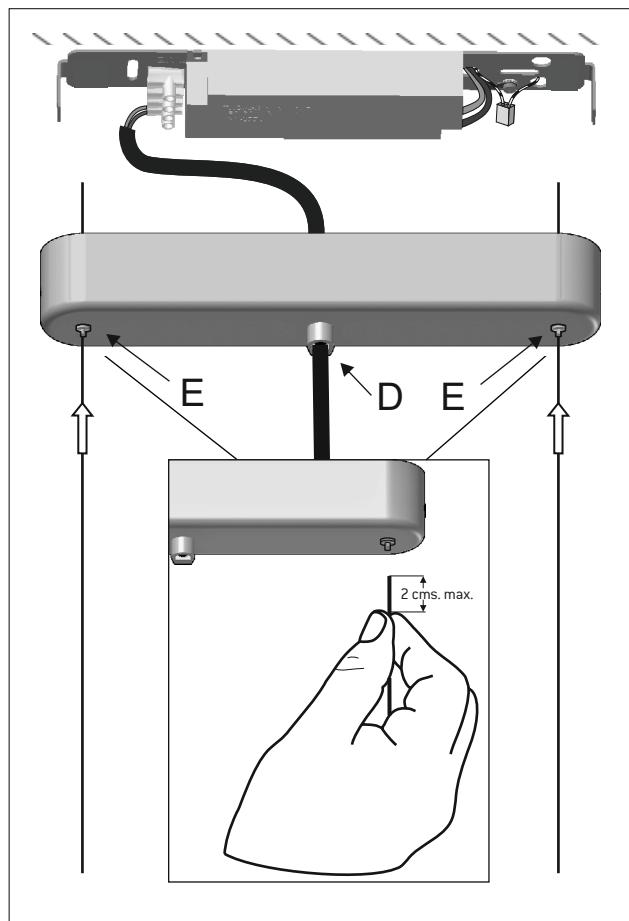
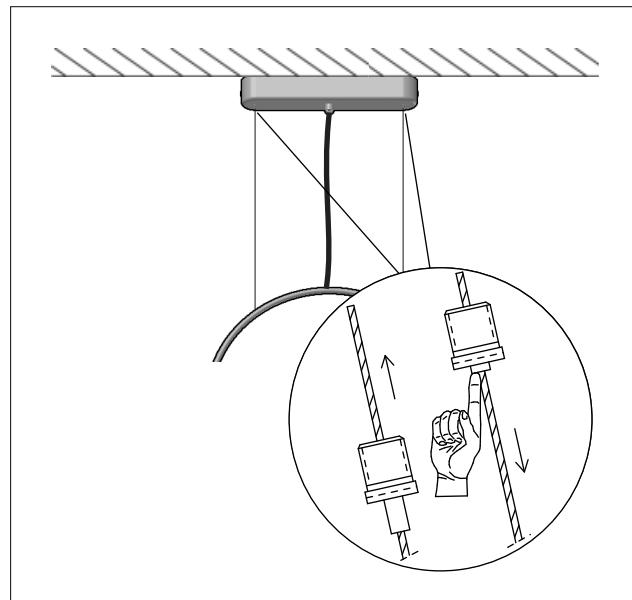
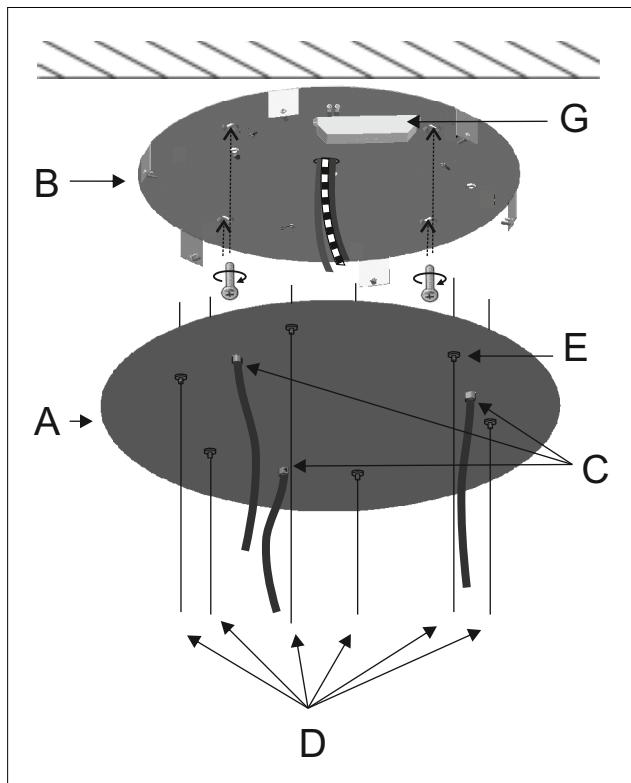
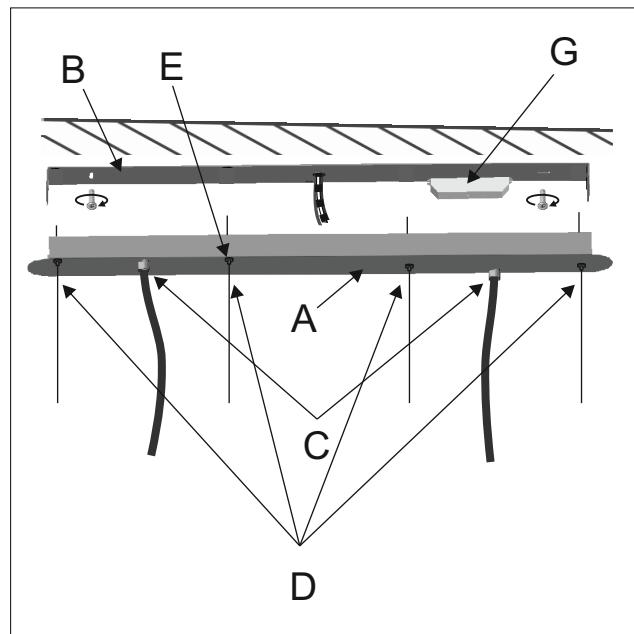

Figure 3
Figure 6
Figure 1
Figure 1
3 - Press the clamps [E] and introduce the steel cables. In order to make the introduction of the cable easier, do not allow more than 2cm between its tip and your thumb. Consult functioning of the clamps in Figure 6. Adjust the lamp's height [E]. Adjust the electrical cable's length with the fastener [D]. Figure 3.
Consult the functioning of the clamps in the following diagram. Figure 6.
Para conseguir menos longitud de cable empujar el cable hacia arriba y para aumentar la longitud presionar el mecanismo del pinza-cables. Manteniendo el mecanismo presionado, el cable se mueve libremente. Cuando se ha conseguido la longitud deseada, soltar el mecanismo y el cable queda fijo. Es aconsejable sujetar el cable con la otra mano para evitar una caída brusca de la lámpara. Figure 6.
Press the clamps (E) and introduce the Aircraft cables. In order to make the introduction of the cable easier, do not allow more than 2cm between its tip and your thumb. Consult functioning of the clamps in Figure 6. Adjust the electrical cables' length with the fasteners (C). Figure 1.
Adjust the height of the lamp with the clamps (E) in Figure 1.
Press the clamps [E] and introduce the Aircraft cables. In order to make the introduction of the cable easier, do not allow more than 2cm between its tip and your thumb. Consult functioning of the clamps in page 3, Figure 6. Adjust the electrical cables' length with the fasteners [C]. Figure 1.
Re-adjust the height of the lamp with the clamps [E] in Figure 1.